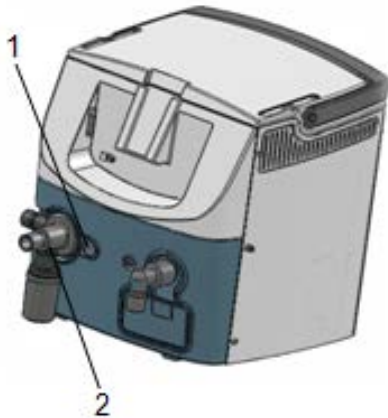

Figure 8-8
- f. Press the button(1 in Figure 8-8);
- g. Pull out the expiratory valve core component (2 in Figure 8-8);